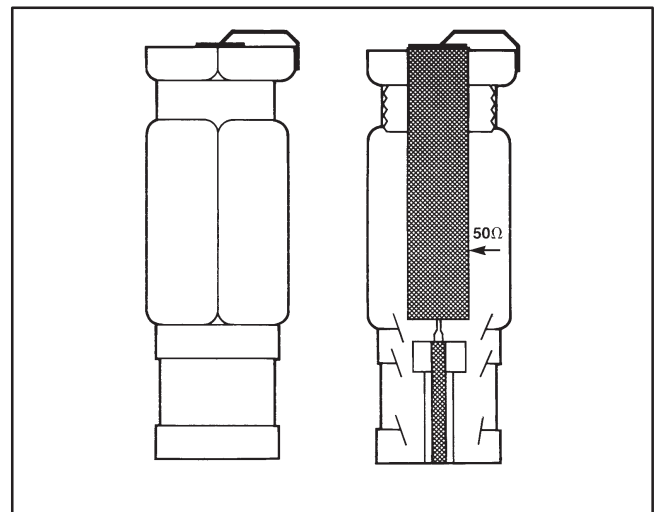

Figure 9. 50 Ω Load Resistors Using Output Pin SMB Cable Connectors
- Output Measurement or Scope Connection (outside SMB connector: this is also found on every input/output pin. More than one pin may be used in this manner. Remember, if this pin is not connected to a scope and is an output, a 50Ω resistor must be connected here to ground to complete the 50Ω resistive load. Philips Semiconductors has constructed 50Ω load by soldering a high-quality (High-frequency) 50Ω resistor inside a female SMB cable connector. See Figure 9.